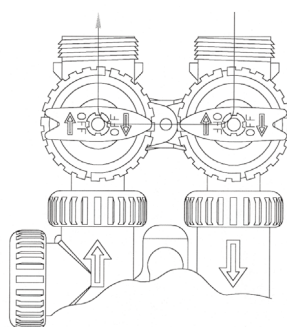

Figure 10: Bypass Mode
2. Place the bypass valve in the “bypass” position or mode (see figures 10 & 11 below.)